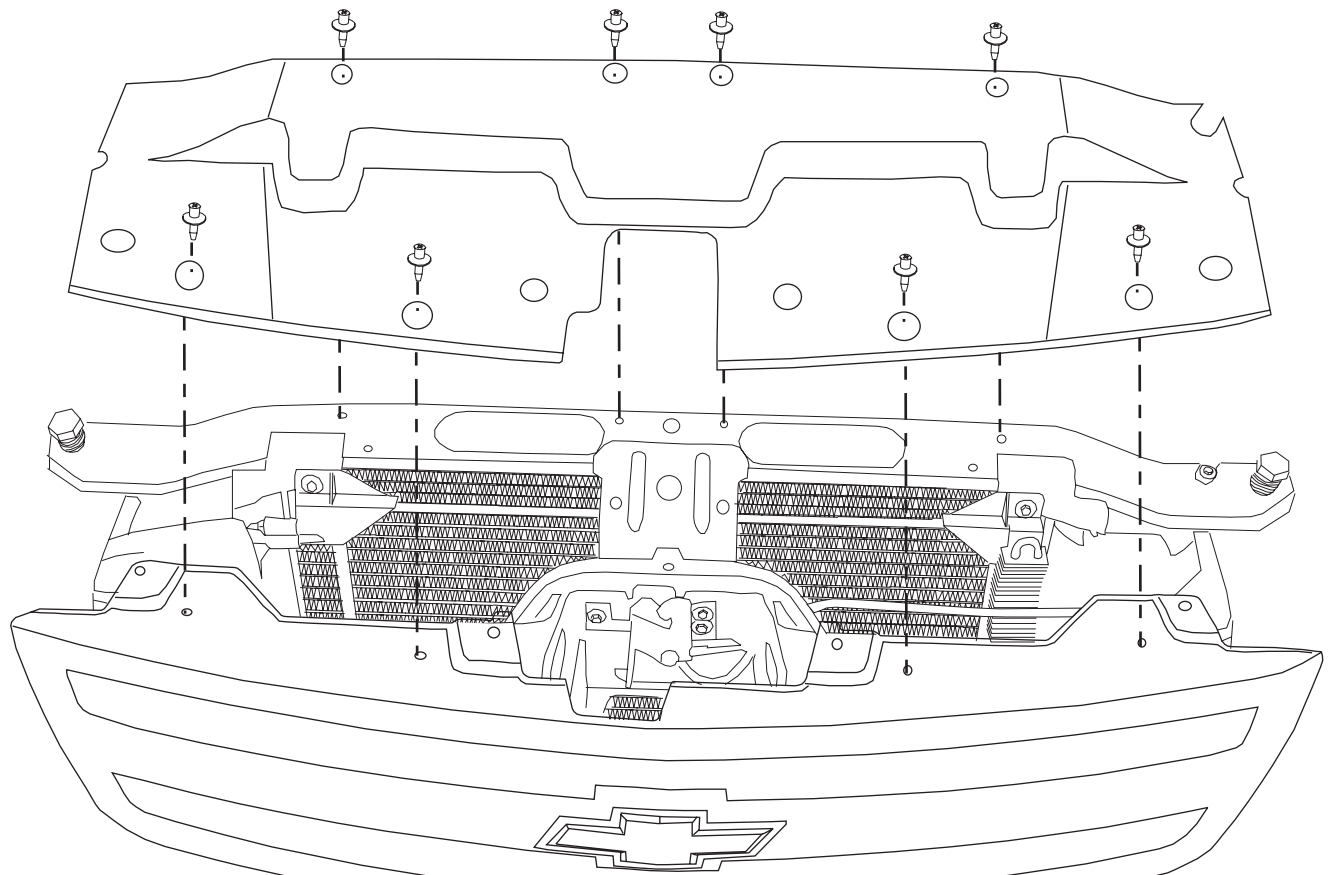

FIGURE 1
- STEP 2. Open the hood and remove the radiator cover to access the factory grille shell. Using a small flat head screwdriver, remove the 8 push pins. **SEE FIGURE 1.**